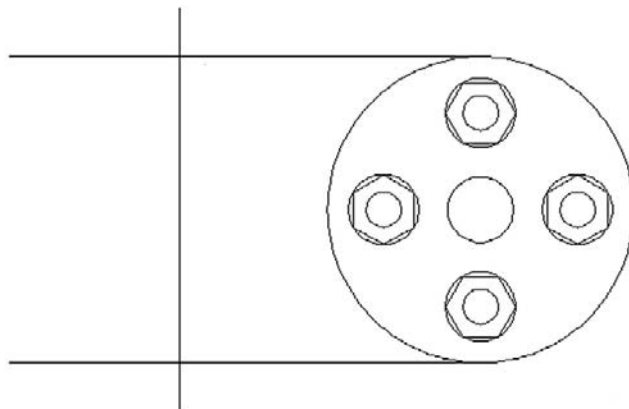

FIGURE 8.9
- Step 7.** You now have to project the main body of the part based on this top view. The best way is by drawing two horizontal guidelines, of any length, starting from the top and bottom quadrants of the big circle, then an arbitrary vertical line to mark the beginning of the part on the right, as shown in Figure 8.9.